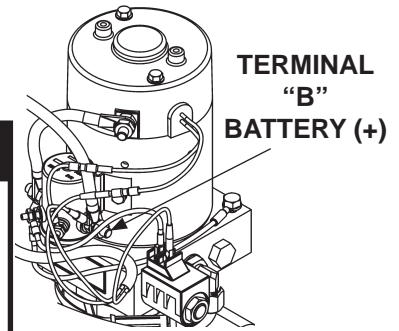

FIG. 53-1
1. Use voltmeter to verify power is being supplied to solenoid terminal "B". Recharge the battery if voltmeter indicates less than 12.6 volts (**FIG. 53-1**).